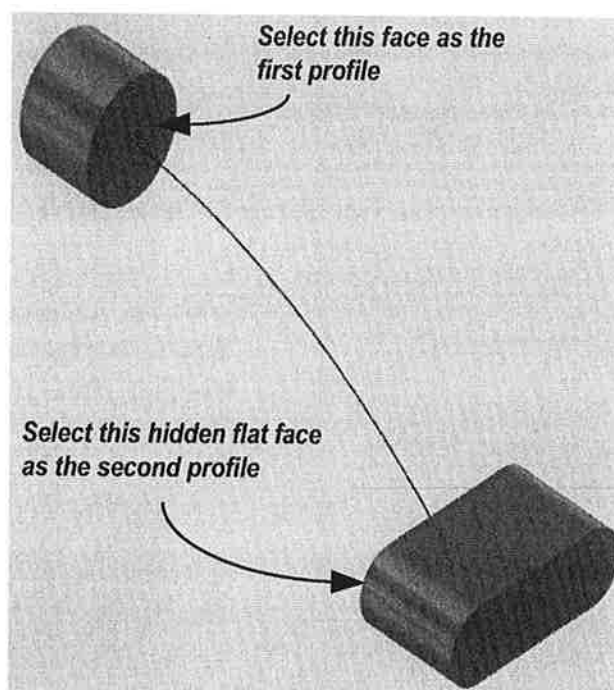

Figure 12-20
3. The *Profiles* area is active by default. Select the two faces shown in Figure 12-20.